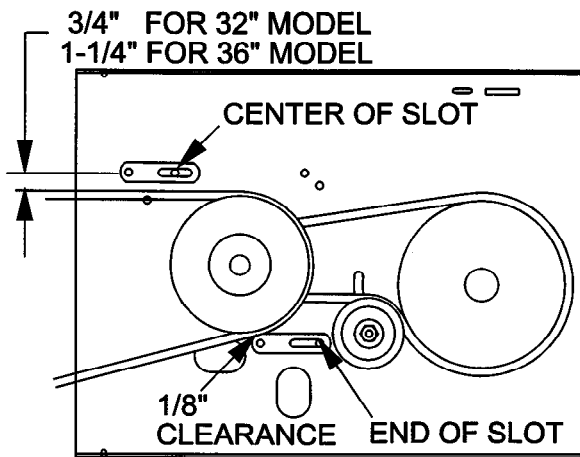

FIG. 17
- d) Check belt guides under the engine deck for proper adjustment (See Figures 17 and 18). Adjust as necessary. The disengaged belt should not drag or fall off pulley when guides are properly adjusted.